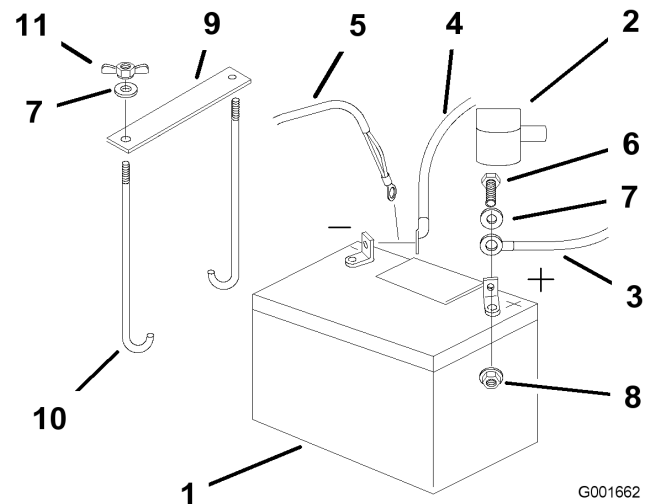

Figure 40
4. First disconnect the negative battery cable and ground wire from the negative (-) battery terminal (Figure 40).
5. Slide the red terminal boot off the positive (red) battery terminal. Then remove the positive (red) battery cable (Figure 40).
- Remove both wing nuts (1/4 inch) securing the battery clamp (Figure 40).
- Position battery in the tray with the terminal posts toward the engine (Figure 40).
- Secure the cables with 2 bolts (1/4 x 3/4 inch), 2 washers (1/4 inch), and 2 locknuts (1/4 inch) (Figure 40).
- Secure battery with J-bolts, hold down clamp and 2 washers (1/4 inch), and 2 wing nuts (1/4 inch) (Figure 40).